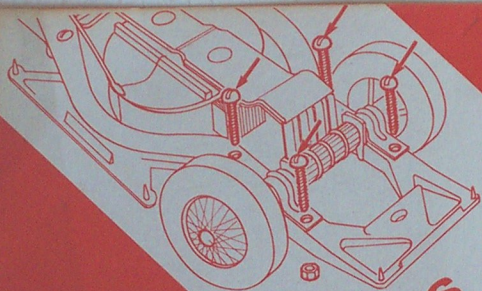

Fig. 1
- 1 Unscrew and remove these four screws (fig. 1).